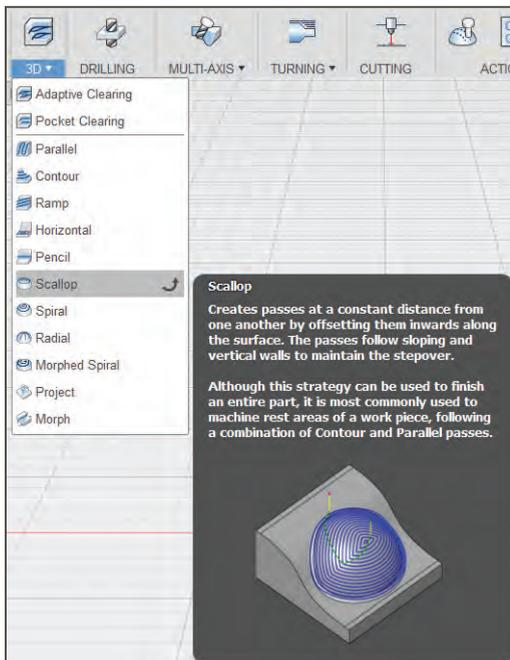

FIGURE 13-8: 3D removes large quantities of material.
- **3D:** This menu has 3D operations such as adaptive clearing, pocket clearing, and scalloping (Figure 13-8). Such operations remove large quantities of material by making a series of z-layers through the part, and then remove them in stages from the top down.